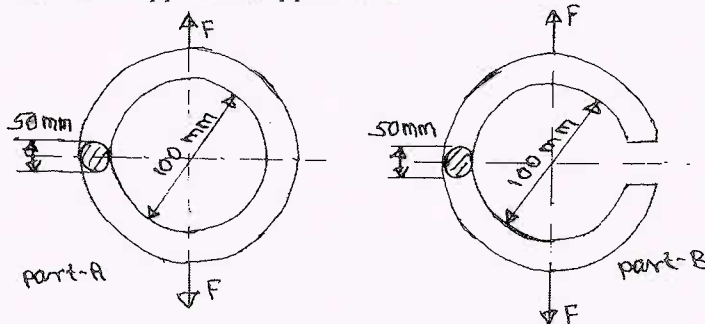

Fig.Q1(b)
b. A closed ring is made up of 50mm diameter steel bar having allowable tensile stress of 200 MPa. The inner diameter of ring is 100mm. For the load of 30 kN, find the maximum stress in the bar and specify the location. If the ring is cut as shown part B of the Fig.Q1(b), check whether it is safe to support the applied load. (12 Marks)